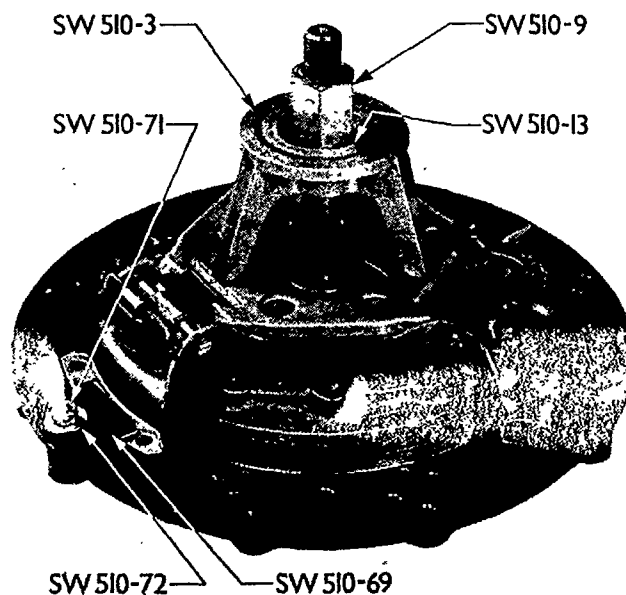

Figure 39
9. Install the Spring Compressor Bridge, SW510-3, Washer, SW510-13, and the Spindle Nut, SW510-9, as shown in Figure 39.
10. Compress the clutch mechanism by tightening the spindle nut until the clutch cover contacts the fixture base, then install the three Spacer Clamps, SW510-69, Washers, SW510-72, and Nuts, SW510-71, as shown in Figure 39. Tighten the nuts securely. Remove the spindle nut, washer, and spring compressor bridge.
15. Install the spring compressor bridge, washer, and spindle nut, as shown in Figure 39, and fully compress the clutch mechanism.